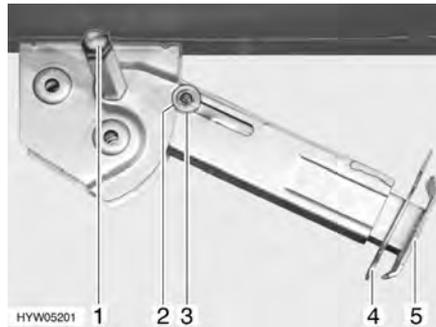

Fig. 22 Steady leg
- Place the socket spanner on the hexagon nut (Fig. 22,1) and rotate until the steady leg is in a perpendicular downward position.
- Remove the splint (Fig. 22,4) out of the support foot extension (Fig. 22,5).
- Place the socket spanner on the hexagon nut (Fig. 22,1) and rotate until the steady leg is clear of the ground.
- Push in the support foot extension (Fig. 22,5) and insert the splint (Fig. 22,4) in the drilled hole in the support foot extension.
- Rotate the hexagonal nut (Fig. 22,1) with the socket spanner until the steady leg has swung upwards and the guide disc (Fig. 22,3) has completely retracted into the notch (Fig. 22,2).